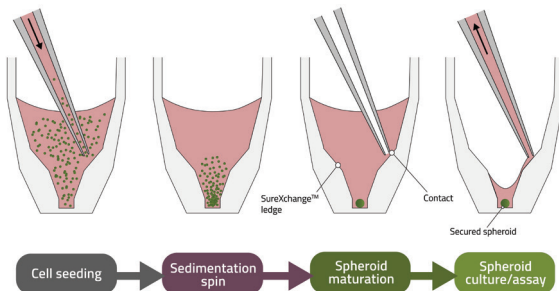

Figure 3. Spheroid formation in the Akura™ 96 Plate.
1. Place the pipette tip at the ledge of the well (Fig. 3).